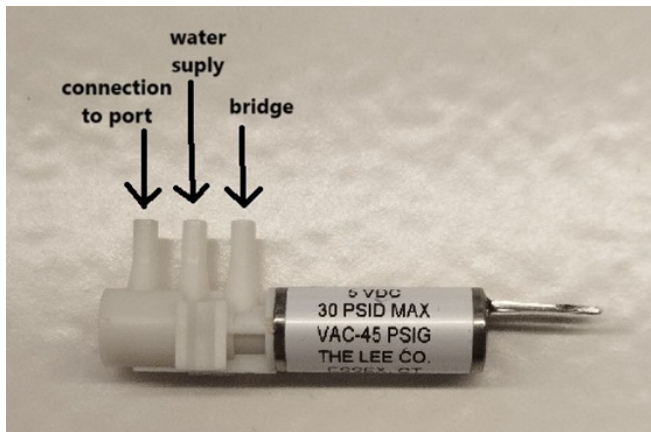

Figure 4: *Solenoid valve with the positions of the tubes.*
Step 12: Adjust the reward tubes (see Other Hardware, part #5 and part #6) to the behavioral ports and connect the valves (see Electronics, part #2). Bridge the valves and connect to the water supply (see Fig.4).